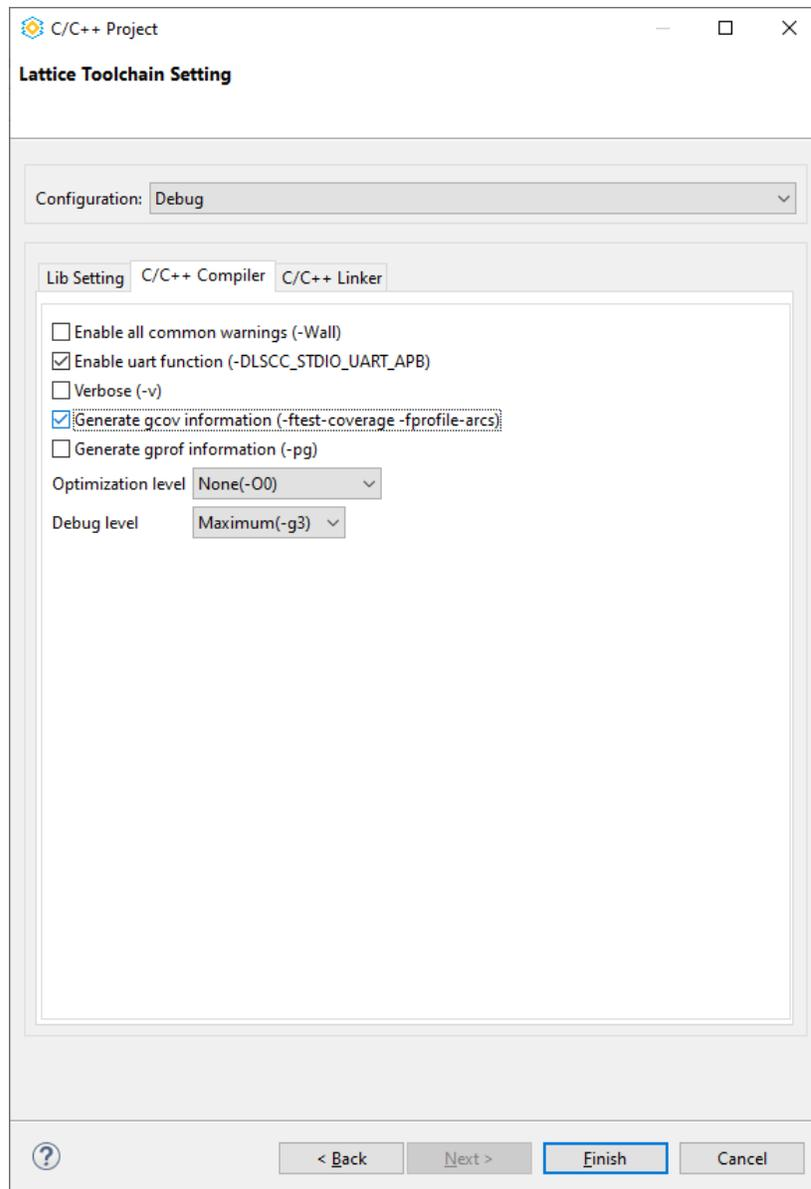

Figure 6.4. C/C++ Compiler
4. Click **Next**. The **Lattice Toolchain Setting** dialog opens. Click the **C/C++ Compiler** tab (Figure 6.4).